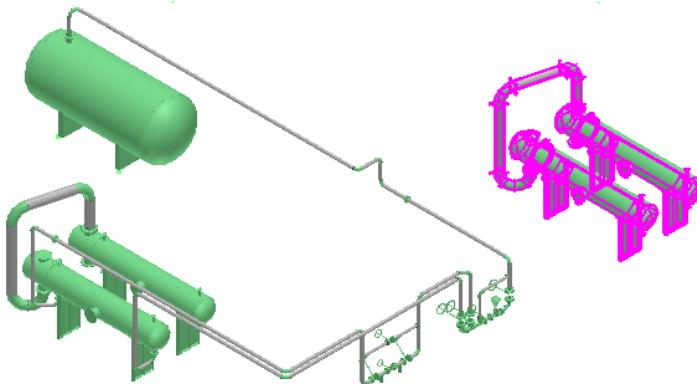

Figure 35: Objects After Pasting on the Graphic View
10. Click in the graphic view to paste the objects as shown in Figure 35.